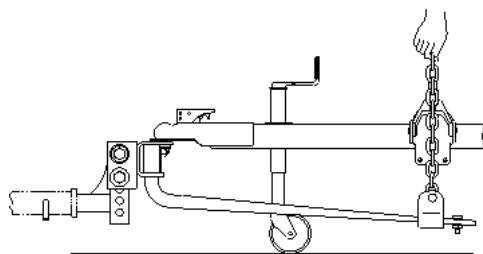

FIGURE 8
- Position lift unit (4) on trailer frame. Lift unit should face driver's side of vehicle [See figure 8].
- Hold spring bar chain (5F) vertical. Center lift unit (4) with chain [See figure 8].
1. With lift unit (4) in raised position, pull straight up firmly on spring bar chain (5F). Note which link is closest to chain hook [See figure 8]. The next lower link will be used for hook up.